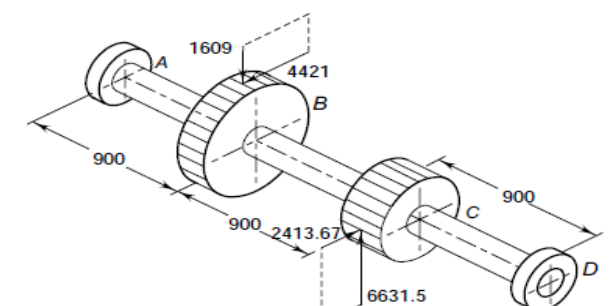

Fig. 6
- OR iii. The layout of an intermediate shaft of a gear box supporting two spur gears B and C is shown in Fig. 6. The shaft is mounted on two bearings A and D. The pitch circle diameters of gears B and C are 900 and 600 mm respectively. The material of the shaft is steel ($S_{ut} = 770$ and $S_{yt} = 580$ N/mm²). The load is suddenly applied with minor shock. Determine the shaft diameter using the ASME code. Assume that the gears are connected to the shaft by means of keys. **6**